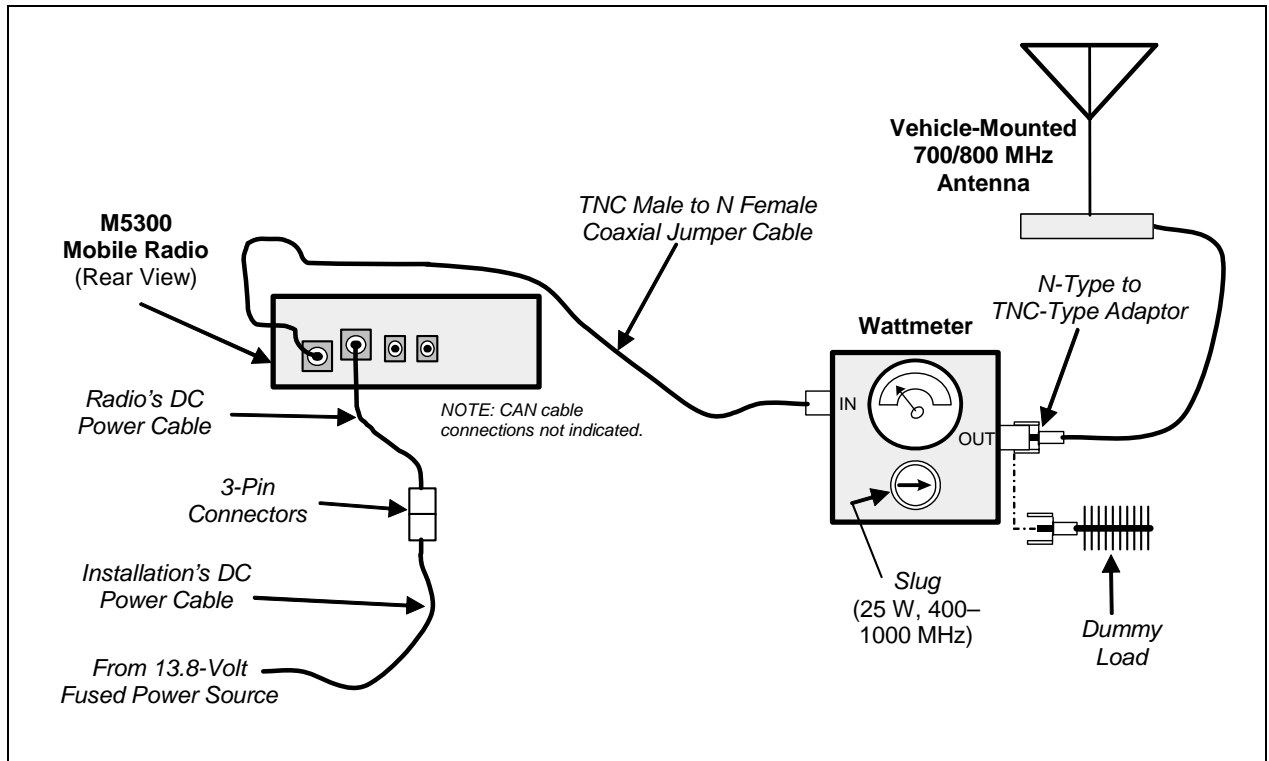

Figure 13-1: Wattmeter Connections for Antenna System Tests
1. Using the N-type male to TNC-type male RF coaxial jumper cable, connect the radio’s antenna connector to the wattmeter’s input connector. Refer to Figure 13-1 as necessary.
1. Connect the antenna cable from the vehicle-mounted 900 MHz antenna to the wattmeter as shown in Figure 13-1.